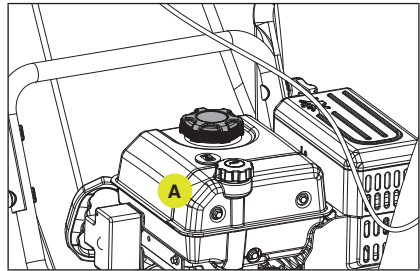

Figure 13
2. Remove the oil cap/dipstick (A) and wipe it clean. (Fig. 13)